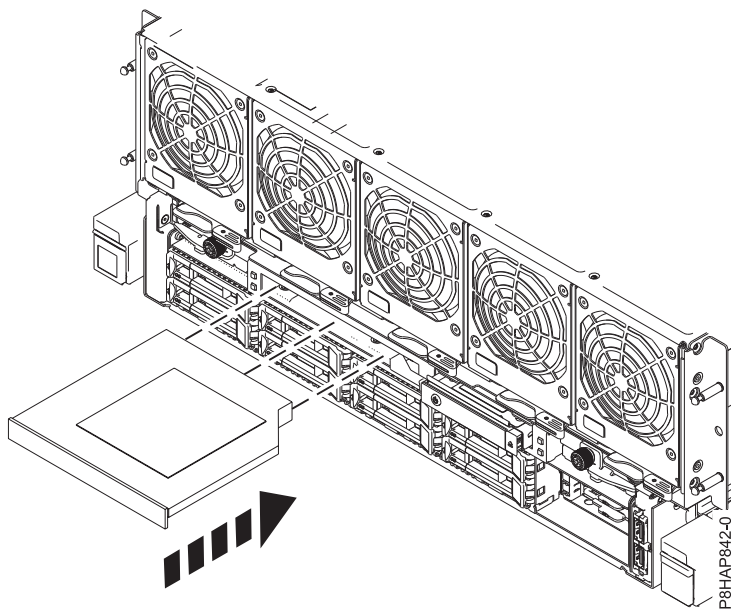

Figure 21. Replacing the DVD drive
- b. Push the DVD drive fully into the system until the device locks in place. See Figure 21.